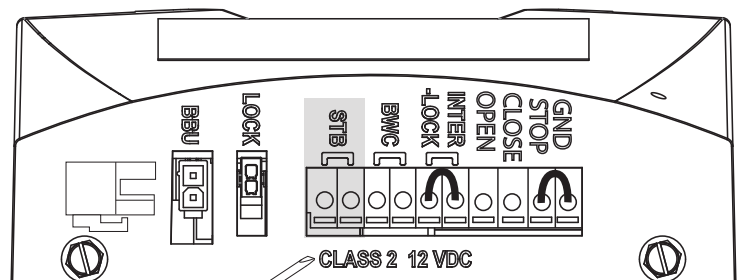

**Fig. 3**
- They are labeled and must be put in their matching fixtures. Fig. 3